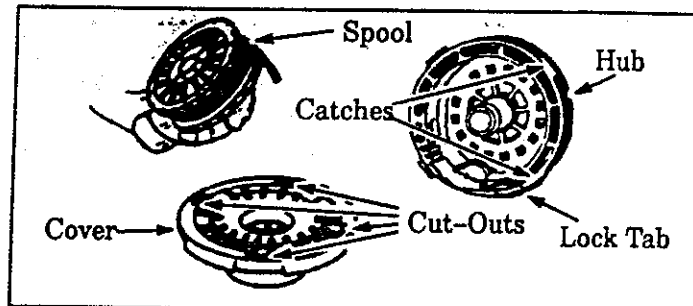

Figure 17
- Align the four Catches on the Hub with the cutouts in the Cover. Figure 17.